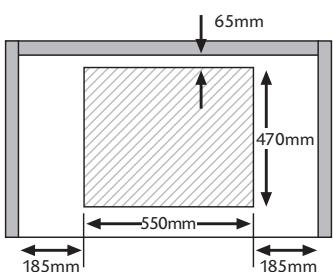

Fig.7
This appliance must be installed a minimum of 50mm from any back wall and a minimum of 185mm away from any adjacent vertical surfaces, e.g. a tall cupboard end panel. This may be reduced to 100mm if the adjacent surface is resistant to fire (tiles or steel, for example). These dimensions are shown in Fig.7.
1. Make the required hole in the worktop. Before doing this, you must check the instructions supplied with any cooker hood to ensure that you will have the required clearance. The cut-out (Fig.7) shows a 65mm gap from the wall to the cut-out edge. The distance from the hob, when fitted, to the back wall is 50mm.